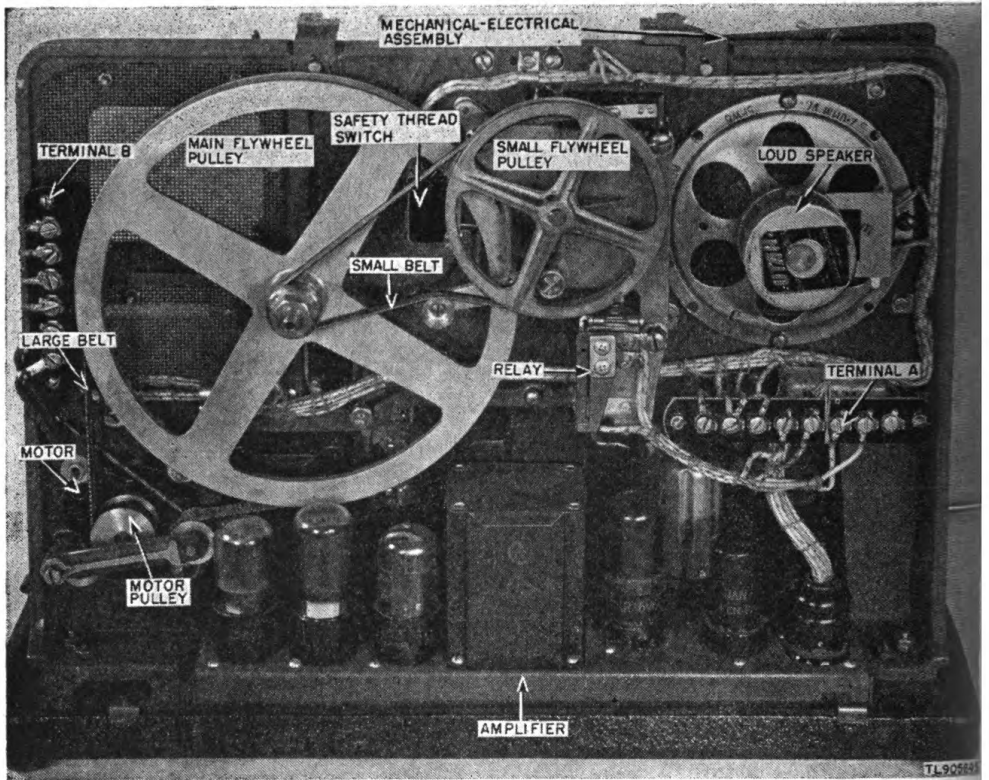

Figure 4. Sound Recording Set AN/UNQ-1A, rear view.
(2) Rear of Sound Recording Set AN/UNQ-1A (fig. 4). The rear consists of two major assemblies, the mechanical-electrical, and the amplifier. On the mechanical-electrical assembly are the loudspeaker, 1/50-horsepower shaded-pole motor, main flywheel pulley, belt, carriage-mechanism assembly, and the necessary wiring, switches, relays, terminal strips, and hardware. On the amplifier chassis are all the tubes, transformers, capacitors, resistors, chokes, and wiring associated with the amplifier. The receptacle for the 11-prong male plug is located on the right-hand corner of the amplifier chassis.